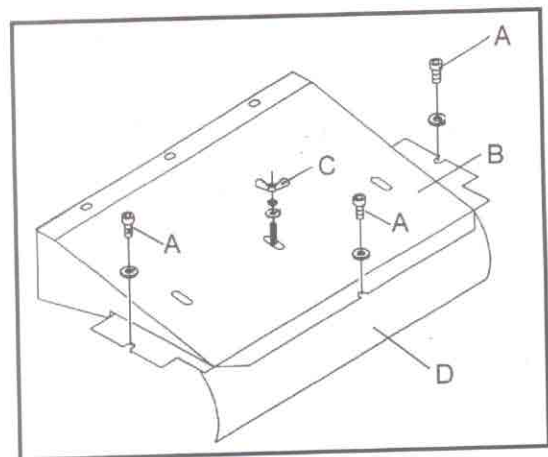

Fig. 13A
2. Remove screws (A, Fig. 13A) securing the dust hood.
3. Remove dust hood (B, Fig. 13A).
4. Loosen three wing nuts (C, Fig. 13A) and slide the curved infeed chip deflector (D, Fig. 13A) out of the way.